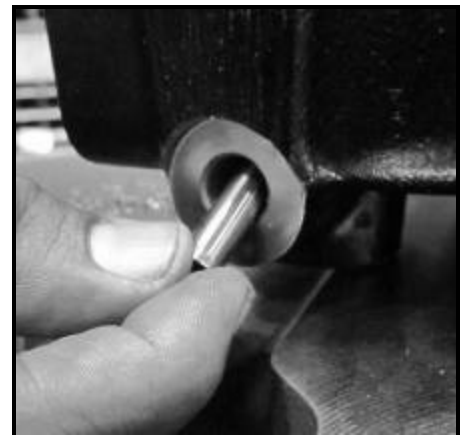

Figure 91
11. Insert the indicator switch actuation pin into place. The rounded end of the pin must face inward. See **Figure 91**.